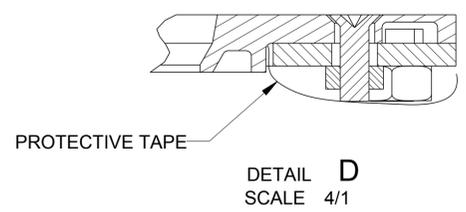

FIGURE 1
PROBLEM (FIG 1)
**PROBLEM (FIG 1): THIS DESIGN CAUSES THE TOUCH SYSTEM TO TILT. THE PROPER OPTO ALIGNMENT IS NOT ACHIEVED DUE TO TAPE/GASKET MOUNTED TO CUSTOMER PANEL IS TOO WIDE. SEE SOLUTIONS BELOW.**
APPLY PROTECTIVE TAPE TO THE TOUCH SYSTEM AS SHOWN IN FIGURE 1, BETWEEN CIRCUIT BOARDS AND INSERT ON ALL 4 SIDES, LAY THE TAPE OVER THE CIRCUIT BOARDS, TO PROTECT THE CIRCUITRY FROM THE ADHESIVE DURING APPLICATION AND CURING.